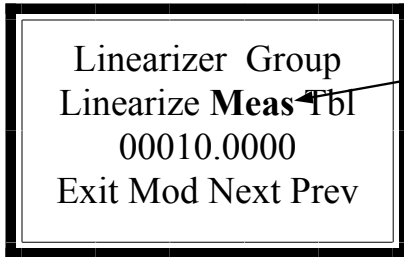

Figure 11e: Selecting the Linearize Gage Table.
7) Select the Linearize **Meas** Tbl. Press the MODify key. Figure 11e.